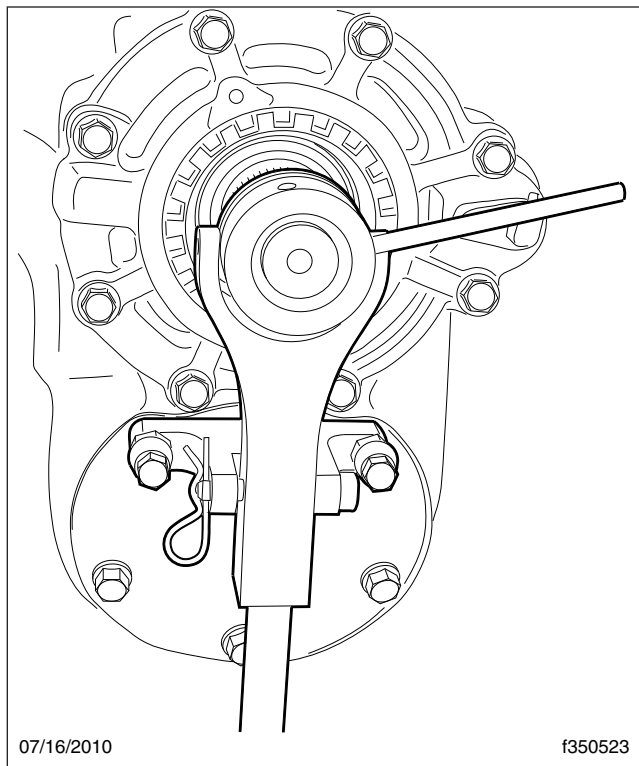

Fig. 12, Push-Pull Device, Installed
32. The push-pull device (see Table 1) is used to set pre-load on the input bearing. Remove the two upper capscrews from the cover plate and install the device as shown in Fig. 12.